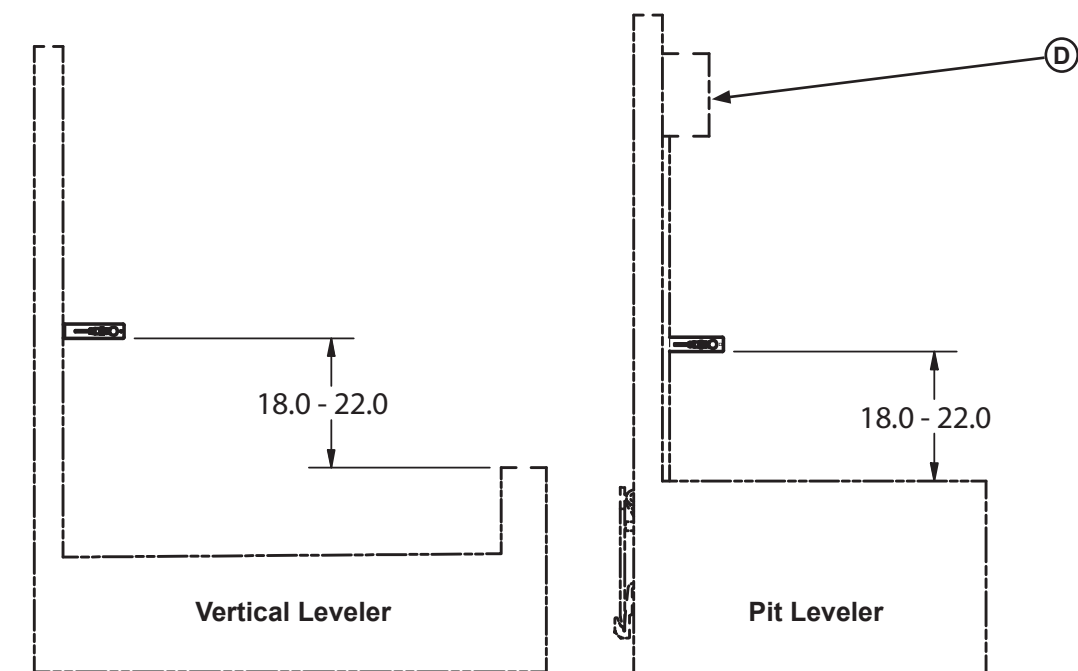

Figure 2
- Bottom edge of bracket should be 18-22 inches off the dock floor. See Figure 2.